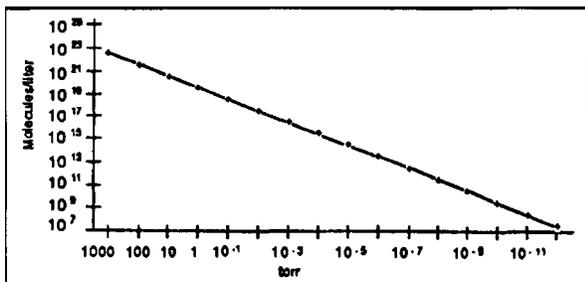
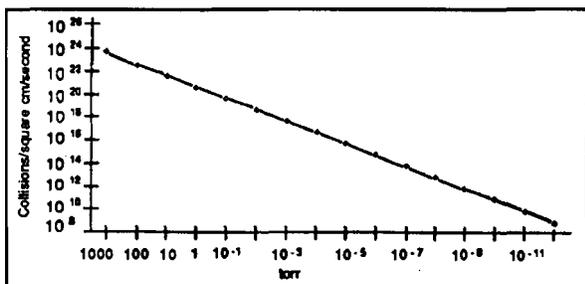
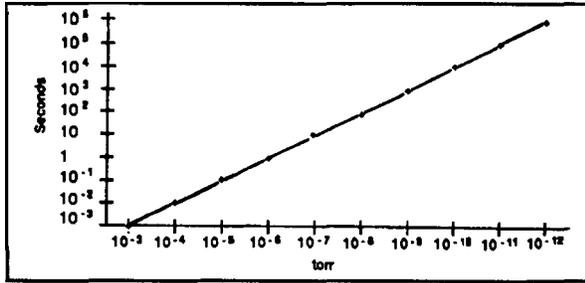

Figure 7. Number of molecules per liter of system volume at various pressures.
Figure 8. Number of collisions between molecules and one square centimeter of substrate surface per second.
Figure 9. Time for water monolayer formation.
The amount of water vapor in the residual gases during deposition is likely to have an effect upon the quality of the film being deposited. Figure 7 shows the number of molecules per liter of system volume present at various pressures. Since all and any of these molecules are in constant motion within the vacuum chamber, it becomes statistically possible to determine the number of collisions between molecules and a surface. In this case, we can narrow the focus to the number of molecules that will come in contact with a substrate surface per unit time. Figure 8 shows the number of collisions between molecules and one (1) square centimeter of substrate surface during a single second's duration. If we assume a water vapor partial pressure of 10^{-6} torr, we can see that 10^{15} molecules are hitting each square centimeter of substrate per second. Under normal conditions, this translates to the formation of a monolayer of water sorption per second, as shown in Figure 9.